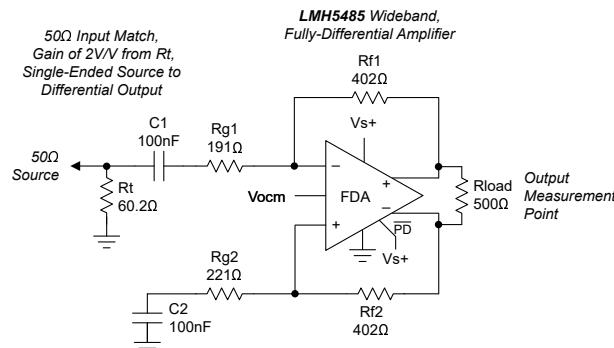
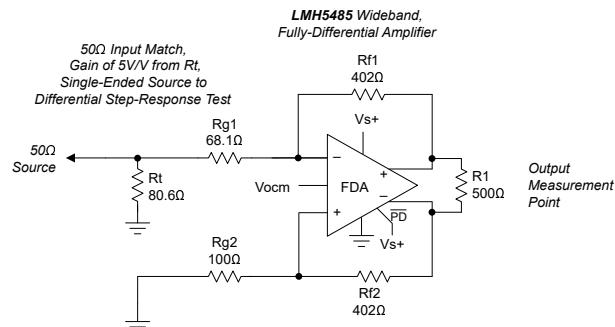

Figure 7-1. AC-Coupled, Single-Ended Source to a Differential Gain of a 2V/V Test Circuit
Figure 7-2. DC-Coupled, Single-Ended-to-Differential, Basic Test Circuit Set for a Gain of 5V/V
Single-ended input to differential output, simulated differential output impedance, see Figure 7-1
Single-ended input to differential output, gain of 2 (see Figure 7-1), simulated with 1% resistor, worst-case mismatch
Single-ended to differential, gain of 2 (see Figure 7-1) PSRR simulated to differential output
Average Vocom output offset of 37 units, standard deviation < 2.5mV, see Figure 7-2
Single-ended to differential gain of 2 (see Figure 7-1), PSRR for negative supply to differential output (1kHz simulation)
Single-ended to differential gain of 2 (see Figure 7-1), PSRR for positive supply to differential output (1kHz simulation)
The LMH5485-SP offers the advantages of a fully differential amplifier (FDA) design, with the trimmed input offset voltage of a precision op amp. The FDA is an extremely flexible device that provides a purely differential output signal centered on a settable output common-mode level. The primary options revolve around the choices of single-ended or differential inputs, ac-coupled or dc-coupled signal paths, gain targets, and resistor value selections. Differential sources can certainly be supported and are often simpler to both implement and analyze. Figure 7-1 and Figure 7-2 show examples of both ac and dc coupled single-ended to differential circuits.
Figure 7-1 shows how most characterization plots fix the R_f value at 402Ω. This value is completely flexible in application, but the 402Ω provides a good compromise for the issues linked to this value, specifically:
- Added output loading. The FDA appears like an inverting op amp design with both feedback resistors as an added load across the outputs (approximate total differential load in Figure 7-1 is $500\Omega \parallel 804\Omega = 308\Omega$).
The outputs offer near rail-to-rail output swing (0.2V headroom to either supply), while the device inputs are negative rail inputs with approximately 1.2V of headroom required to the positive supply. Figure 7-2 shows how this negative rail input directly supports a bipolar input around ground in a dc-coupled, single-supply design. Similar to all FDA devices, the output average voltage (common-mode) is controlled by a separate common-mode loop. The target for this output average is set by the V_{OCM} input pin that can be either floated to default near midsupply or driven to a desired output common-mode voltage. The V_{OCM} range extends from a very low 0.91V above the negative supply to 1.1V below the positive supply, supporting a wide range of modern analog-to-digital converter (ADC) input common-mode requirements using a single 2.7V to 5.4V supply range for the LMH5485-SP.
Going to the device input pins side, because both the source and balancing resistor on the nonsignal input side are dc blocked (see Figure 7-1), no common-mode current flows from the output common-mode voltage, thus setting the input common-mode equal to the output common-mode voltage.
The output considerations remain the same as for the ac-coupled design. Again, the input can be dc-coupled while the output is ac-coupled. A dc-coupled input with an ac-coupled output can have some advantages to move the input V_{ICM} down if the source is ground referenced. Figure 7-2 shows how when the source is dc-coupled into the LMH5485-SP, both sides of the input circuit must be dc coupled to retain differential balance. Normally, the nonsignal input side has an R_g element biased to whatever the source midrange is expected to be. Providing this midscale reference gives a balanced differential swing around V_{OCM} at the outputs.